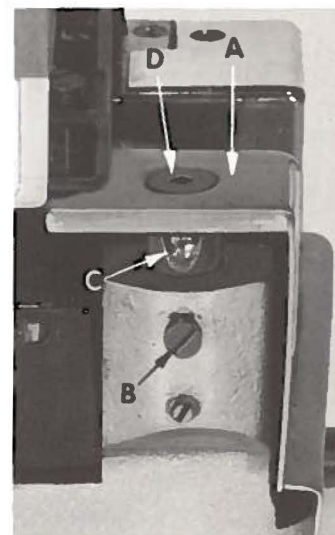

Fig. 14
CAUTION: When removing the cloth plate (A, Fig. 14) loosen the cloth plate stud locking screw (B) and lift up cloth plate with the cloth plate stud (C) and cloth plate screw (D), assembled.